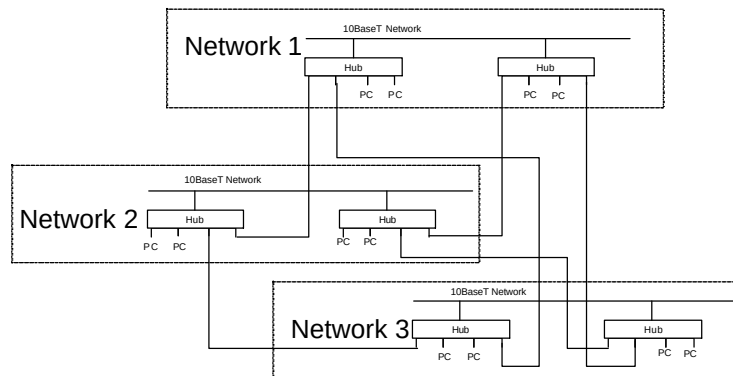

Figure 33: Bridging Networks
As an alternative to placing wildcards (00) in the **MAC Address** field, the **Mask Bytes** column allows you to select which octets in the **MAC Address** field will be read by the CPU (see Figure 33).